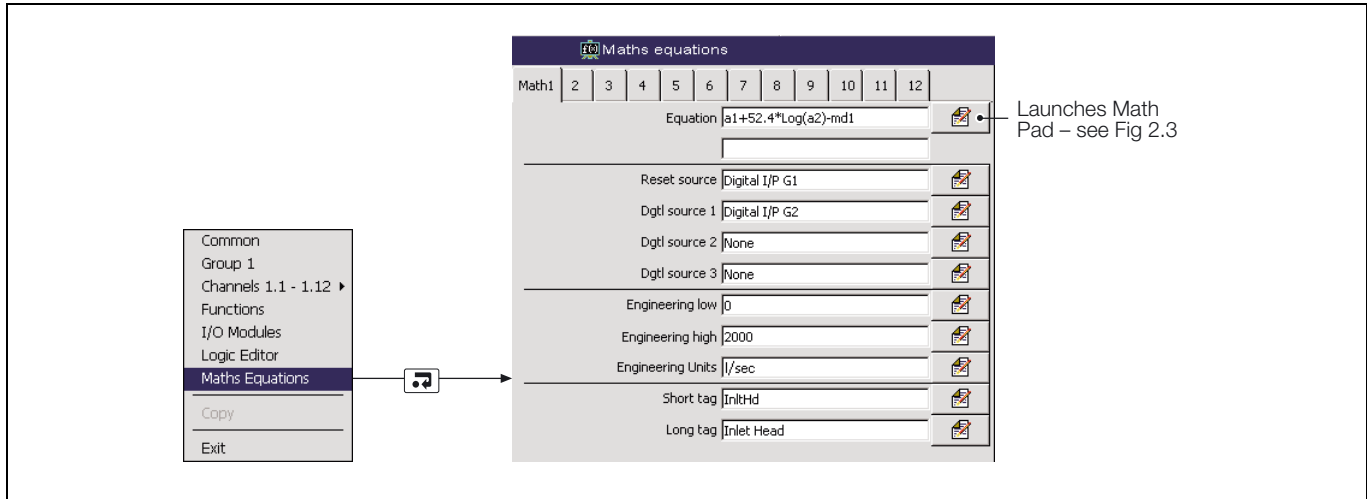

Fig. 2.2 Launching the Math Block Editor (Math Pad)
- Up to twelve Math Blocks, configured individually using the 'Math Pad' – see Fig. 2.2, page 6.
2.8 Creating Math Blocks – Figs. 2.2 and 2.3